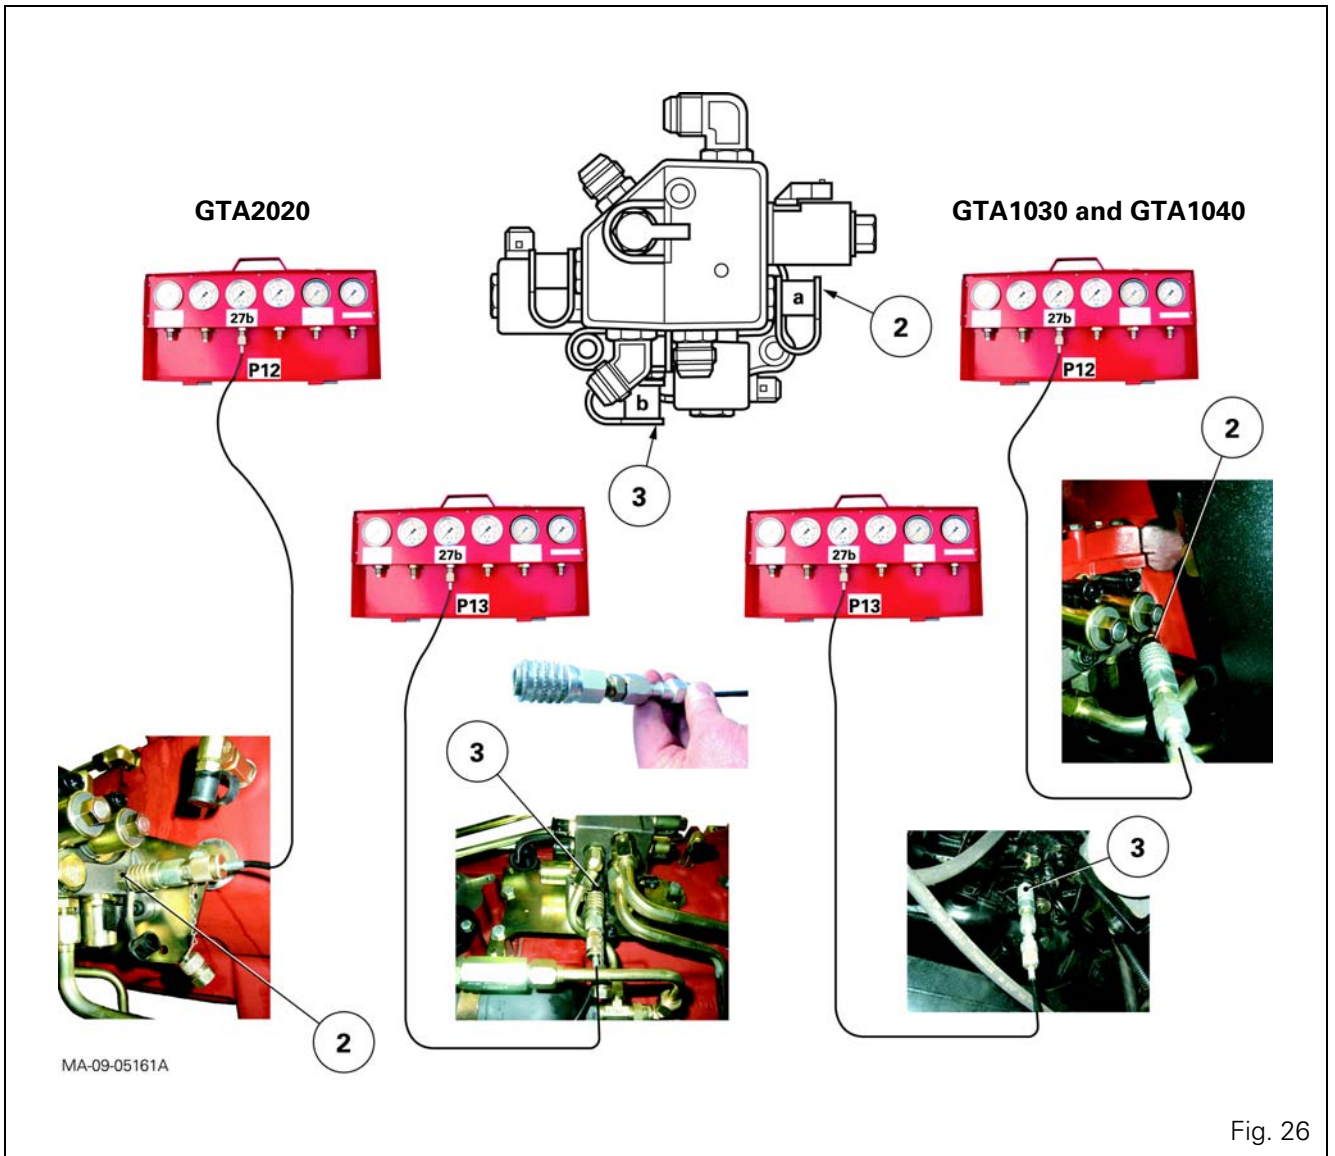

Fig. 26
- Connect a pressure gauge with a capacity of approximately 30 bar and fitted with a coupler ref. 3582045M1, to each male connector (2) and (3) (Fig. 26).